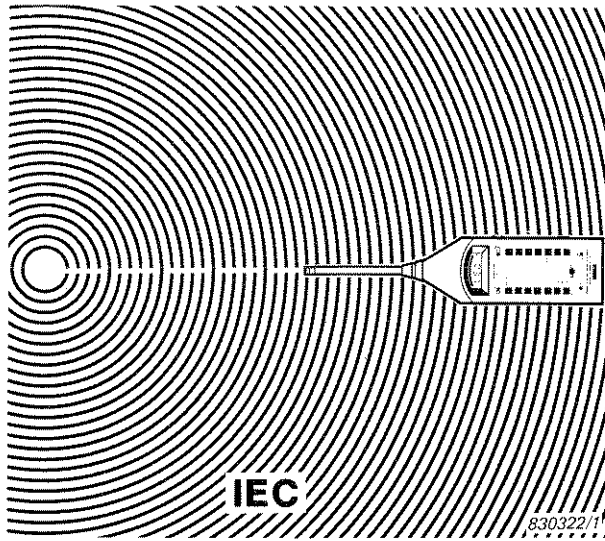

Fig. 2.12. Free-field measurements according to IEC recommendations
- Point Sound Level Meter directly at the source if a free-field condition is assumed to exist (See Fig. 2.12).